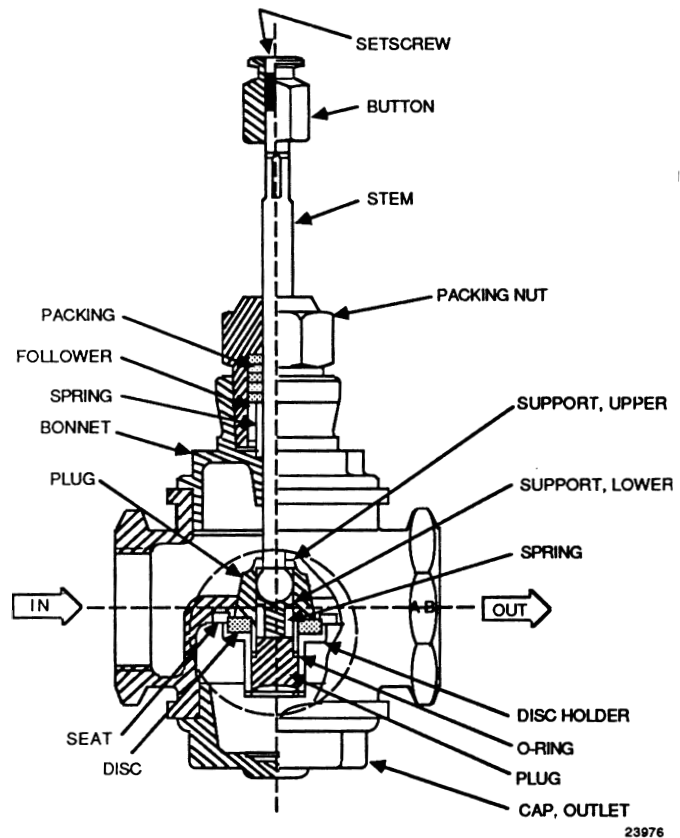

Fig. 11. V5011H and J Reverse Acting Threaded Body Valve—Cutaway.
- b. V5011H and J Reverse Acting Threaded Body Valves (Fig. 11). Unscrew cap outlet from body and remove Stem and Plug.